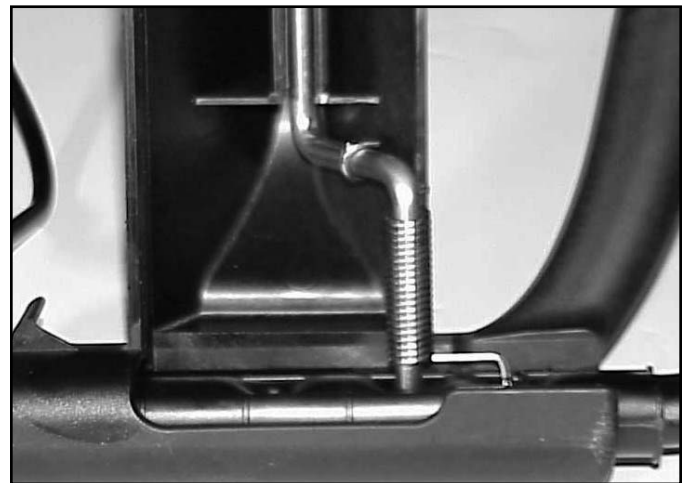

Fig 242
5. When reinstalling the handle, reconnect the spring as shown. The spring should push the handle upwards toward the disengage position (Fig. 242).